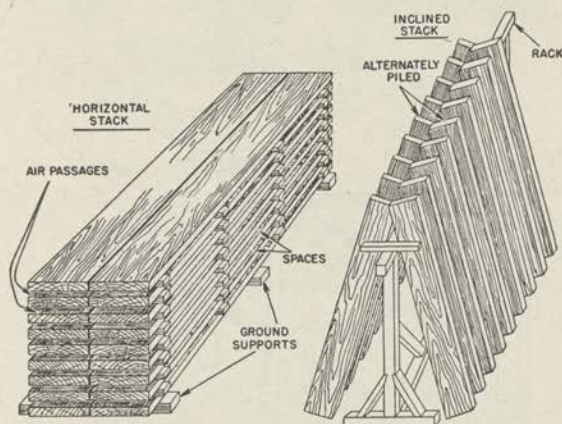

FIGURE 5.—Lumber piled for air seasoning.
b. Seasoning.—Seasoning is simply the evaporation of sap and moisture from green wood, either naturally or artificially. The drier the lumber, the less likely it is to decay or shrink. Figure 5 shows two kinds of lumber piles for air seasoning. Since air seasoning takes approximately a year for each inch of the lumber's thickness, most lumber today is kiln-dried, that is, dried in a room or bin kept artificially at a temperature of about 100° F. Kiln-dried lumber seasons in 60 to 90 days, depending upon its size. Although air-seasoned lumber is better, the length of time and equipment required make its use nearly prohibitive.